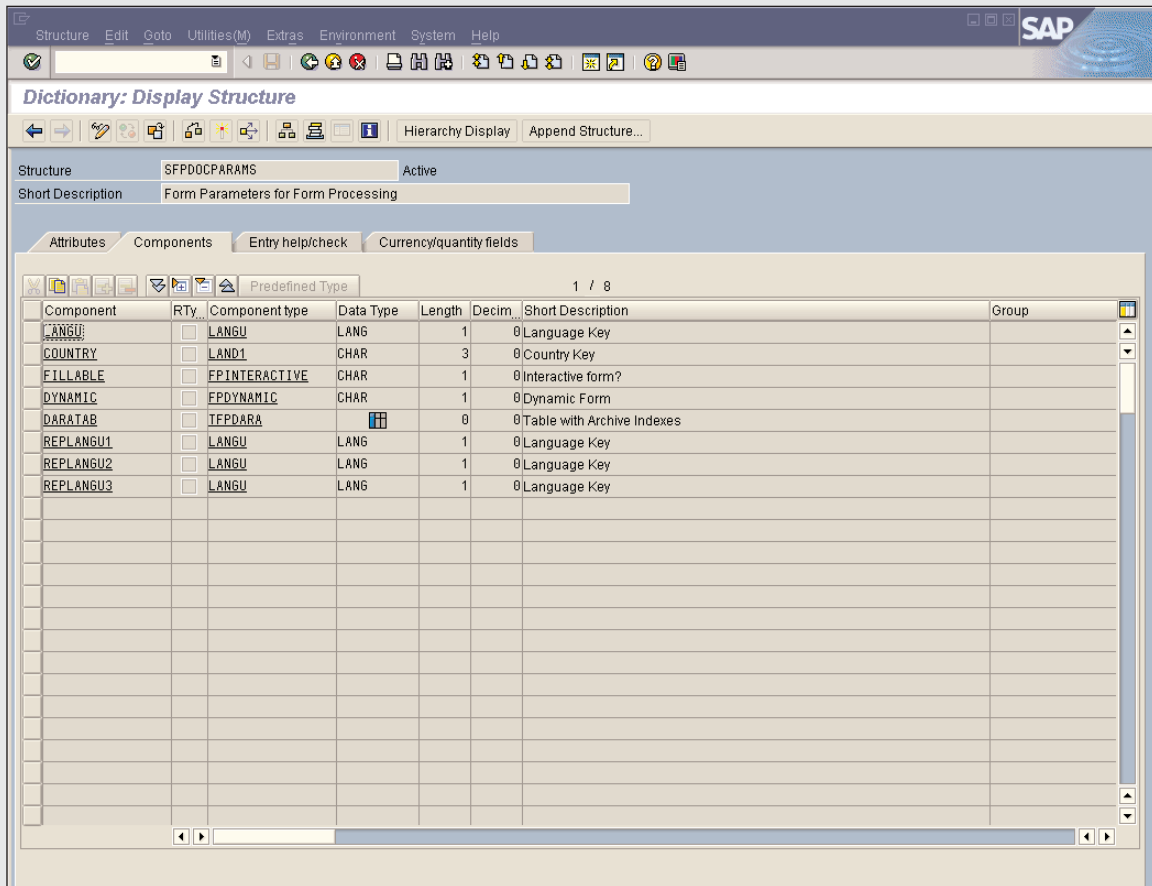

Figure 8 Specifying import parameters
- Under Import, you find the standard parameter /1BCDWB/DOCPARAMS, which provides the foundation for the interface. You cannot change this parameter, but you can specify the values you want for this parameter in your application program (which in this case is a print program) — to set, for example, the value for the language settings of your form. You can display the structure of this import parameter in the ABAP Dictionary by double-clicking on SFPDOCPARAMS, which is the type name (see **Figure 8**).